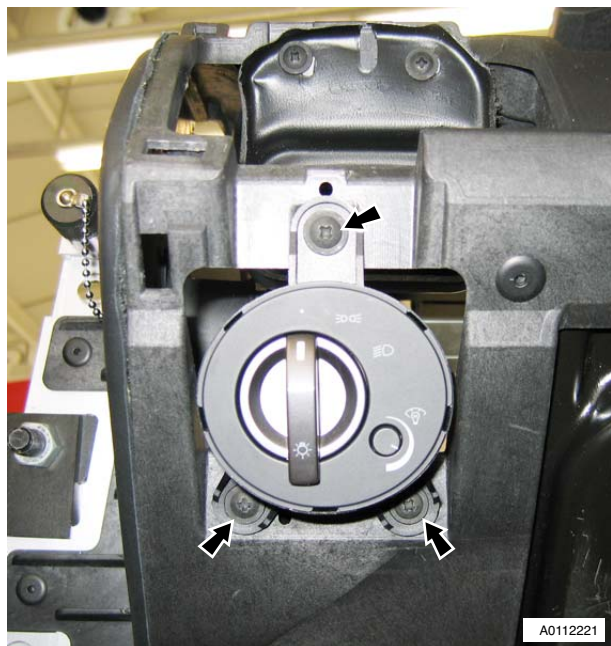

Figure 2
5. Remove lighting switch (screws x3) (see Figure 2).